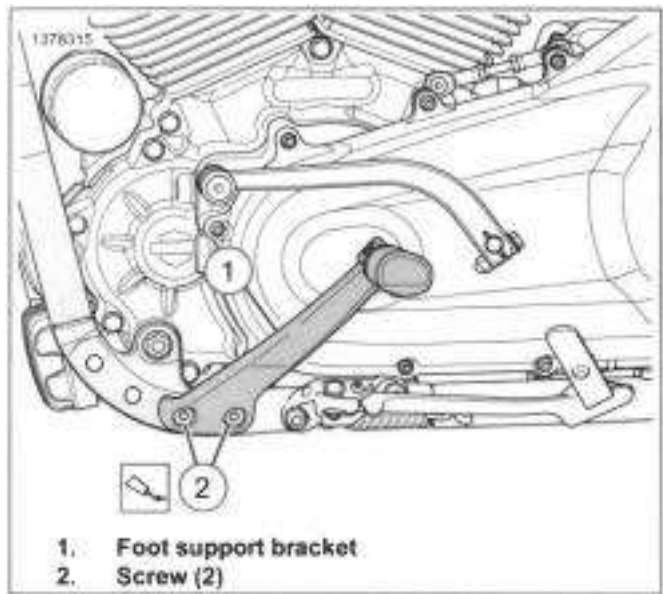

Figure 3-145. Mid Controls
1. See Figure 3-145. Remove screws (2).
2. Remove foot support bracket (1).
1. See Figure 3-145. Install foot support bracket (1).
2. Apply threadlocker to screws (2).